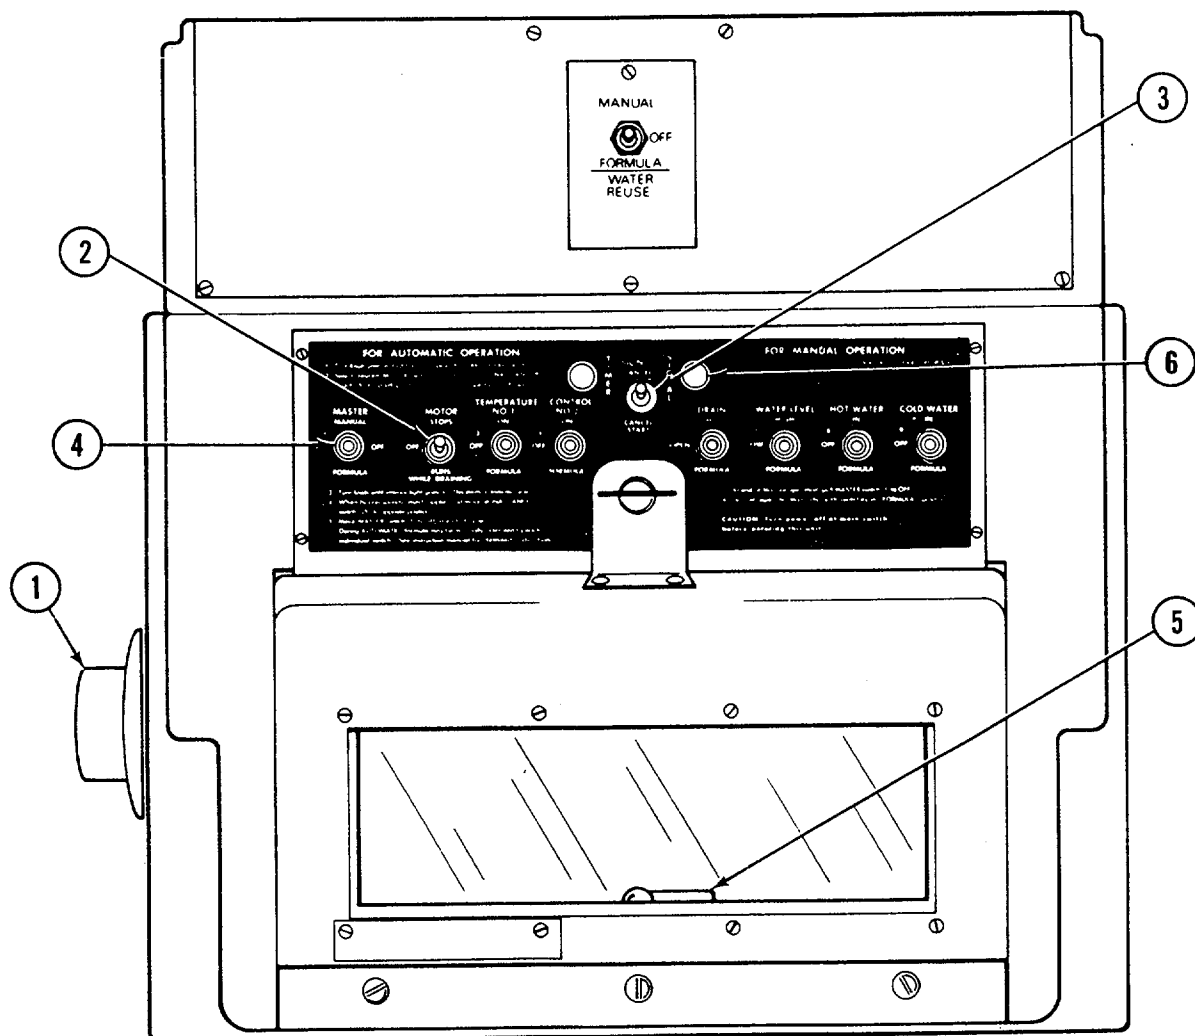

Figure 2-23. Controller .
- (3) Add the proper amount of washing supplies through the soap chute. Refer to FM 10-280 for field laundry washing and decontamination formulas.
- (4) Turn control knob (1, FIG. 2-23) until chart fingers are at the START marker on the formula chart.
- (5) Place SIGNAL CANCEL switch (3) to START position and place remaining switches to FORMULA.
- (6) Place master switch (4) to formula position.
- (7) Turn cylinder until interior light (5) on the door comes on. This is the start of the automatic cycle.
- (8) Select desired MOTOR switch (2) position. For normal work, set MOTOR switch to RUNS WHILE DRAINING position.
- (9) When signal light (6) on the controller comes on and buzzer sounds, the operation markers affixed to the formula chart will show what supplies to add.